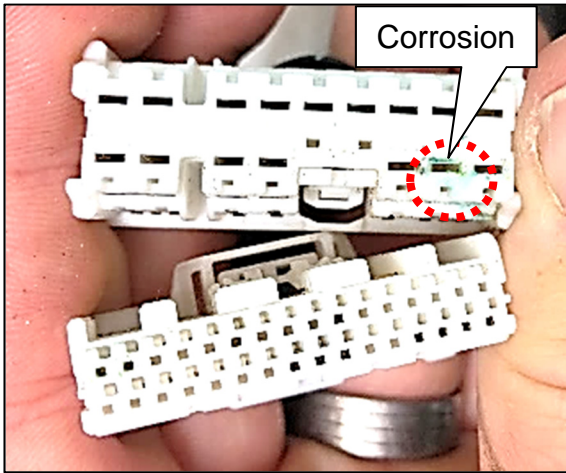
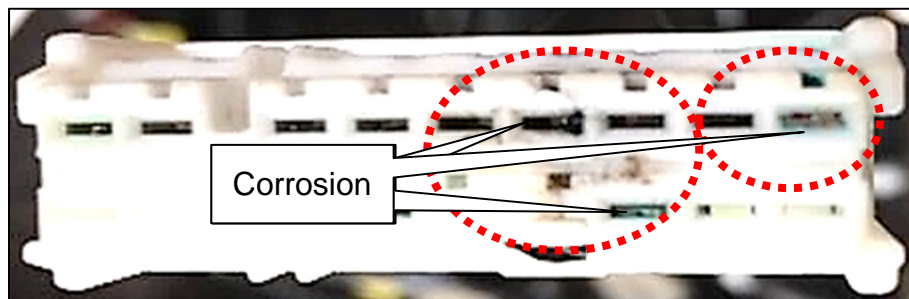

Figure 6
Figure 10
9. Inspect the M74 and B42 wire harness connectors for any signs of corrosion (Figure 6 - Figure 10).